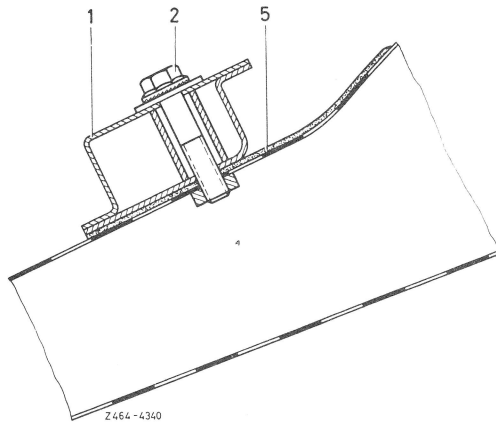

Fig. 7
13 Screw jacket tube (5) with both locking screws (2) to cross member (1), but do not yet tighten screws. (Fig. 7).